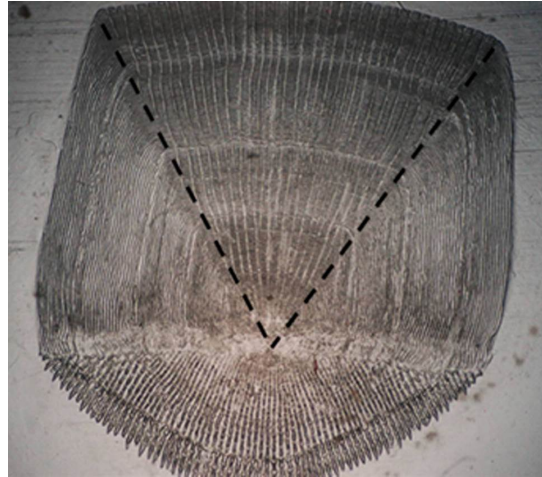

Figure 3: Striped bass scale with a clear focus and V-shaped radii marked with black Sharpie.
2. The focus is a clear point, the radii form a true V-shape (Figure 3);